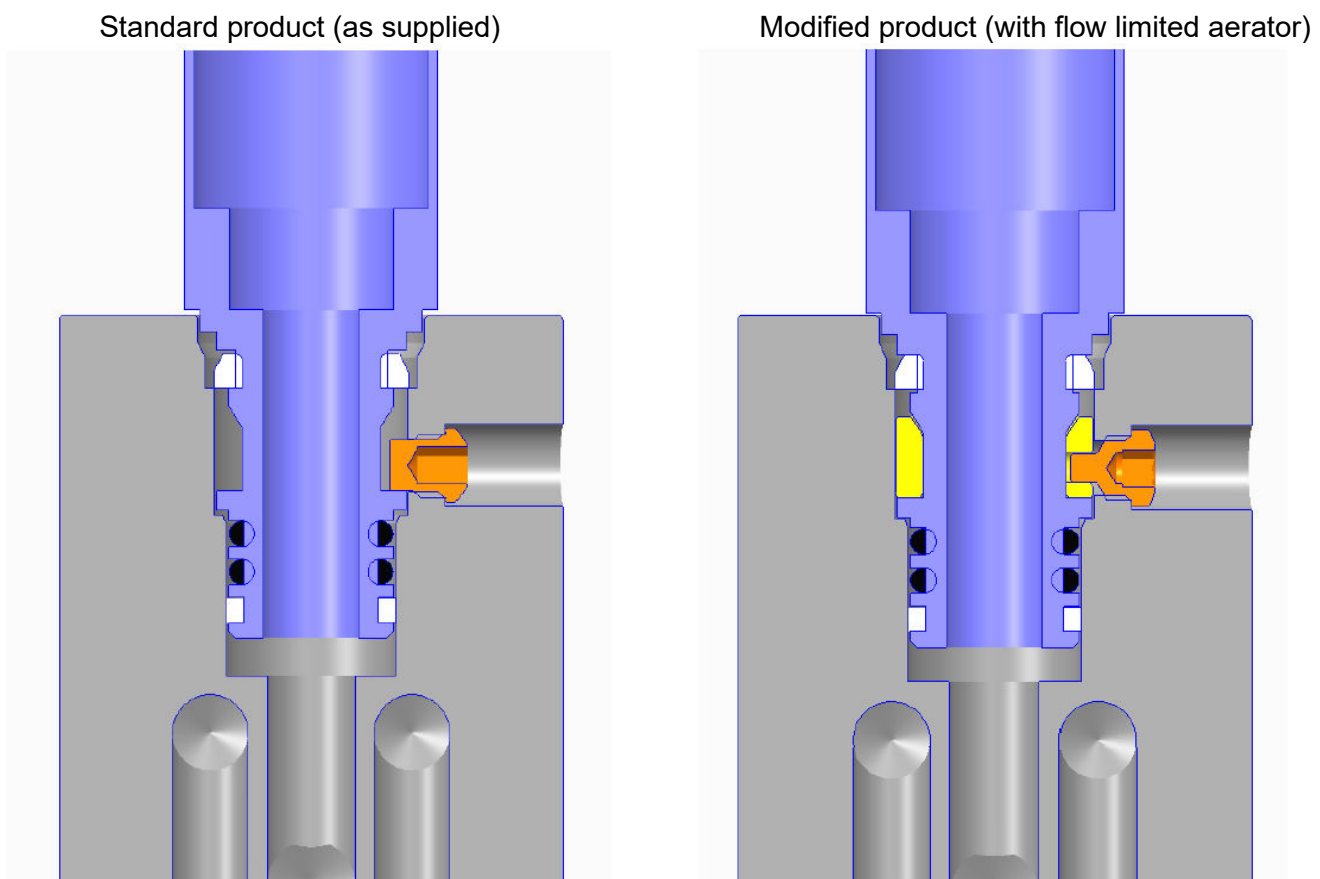

Fig. 1
3. Add the new split PTFE ring (with small spout screw hole) onto the centre of the base of the spout it must be in the orientation (as shown in fig 1.)
6. Reinsert the spout assembly (X1) into the body, note you must rotate and align the small hole in the additional new PTFE spacer with spout screw hole in the rear of the body (B1) as shown on fig 1.
7. Reattach the spout to the body using the new spout grub screw (A7), double check the new spout grub screw (A7) passes into the small hole in the new PTFE ring (see fig 1.).